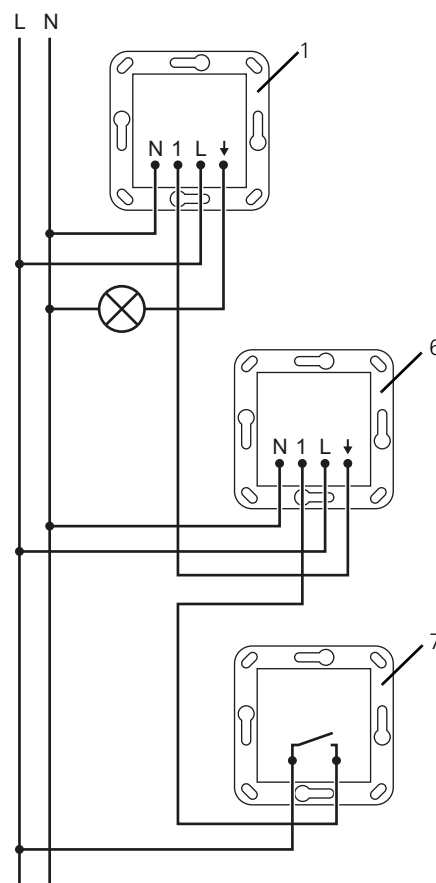

Figure 4: Connection diagram with auxiliary unit
To expand the range of detection, connect further Sensotec units, see connection diagram (Figure 4). The main unit evaluates the motion signals from the auxiliary unit.
- Connect flush-mounted insert in accordance with connection diagram (Figure 4).